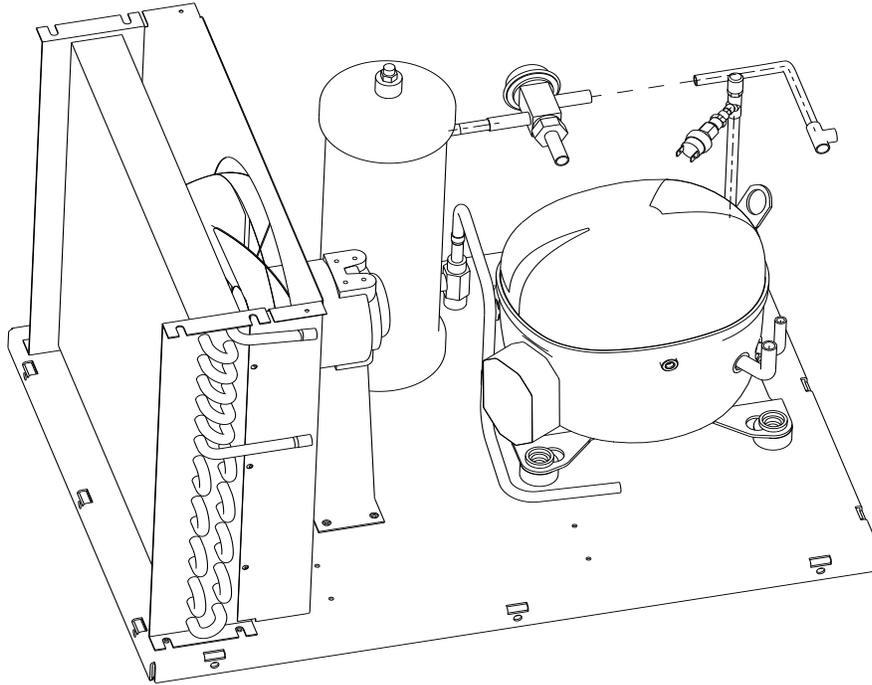

Figure 6. Connection of Head master valve line.
8. Connect the head master valve line in order to braze the discharge tube as shown in Figure 6.